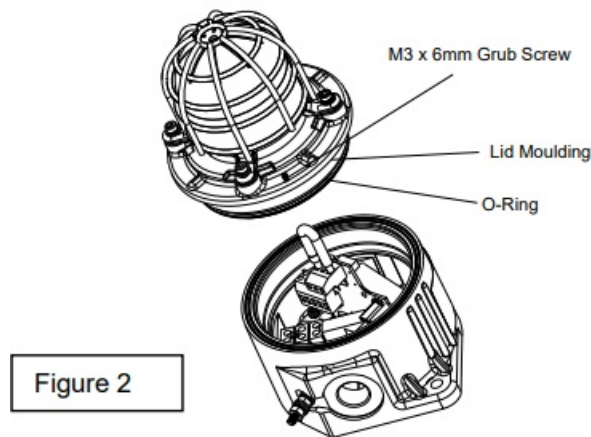

Figure 2
- Open the enclosure by turning the beacon cover counter-clockwise and remove the cover taking extreme care not to damage the flameproof threads in the process (see Figure 2).